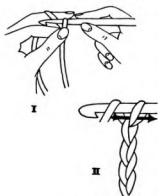

FIGURE 65
**12. Crocheting.** *Chains* (Figure 65). — In all crocheting a hook in proportion to the thread is used. In many patterns the correct sizes are given. If they are not, it may be necessary to experiment until right results are obtained. The thread may be of cotton, silk, or wool; the hook of metal or bone. Make a slip loop at the end of the thread and slip the crochet hook through it. The thread is held in position by starting at the palm of the